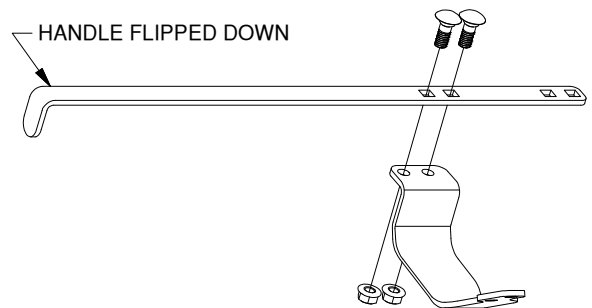

Figure D2: Latch handle assembly configurations.
- 2. Assemble the handle.** Locate the latch pin handle and the latch pin handle bracket. Assemble the pieces of the handle with two 3/8" carriage bolts and 3/8" locking flange nuts, making sure that the edge of the handle is in line with the edge of the bracket, see Figure D2. Torque the nuts to 30 ft. lbs.